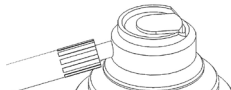

Fig. 6
3. BRiO 450 / BRiO 450L / BRiO 450KL: Fit spray adapter onto universal cap nozzle of approved lubricant (Fig. 6).